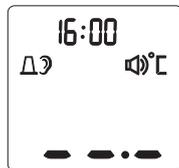

Figure 2
2. Press the *Test Button*, The display is activated to show all segments. After self-checking Figure 2 appears on the display screen with beeps, so you can start a new measurement. If error messages appears, it means the thermometer is not ready for measurement.
When the thermometer has been turned on and followed by Figure 2/4 or finished testing, press and hold the *Setting Button* for three seconds. The letter MEM will appear in the center right corner of the display. (See Figure 5)